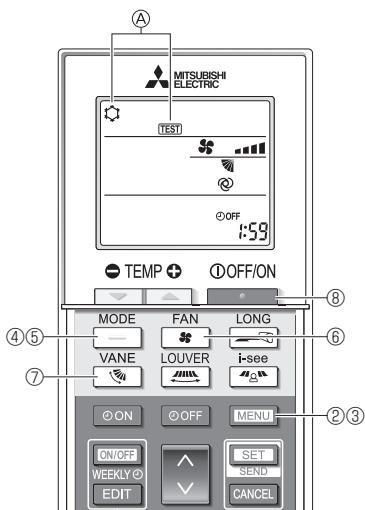

Fig. 8-5
- ① Turn on the power to the unit at least 12 hours before the test run.
- ② Press the **[MENU]** button for 5 seconds. (Fig. 8-5)
- ③ Press the **[MENU]** button.
④ [TEST] and the current operation mode are displayed. (Fig. 8-5)
- ⑤ Press the **[—]** button to activate cool mode, then check whether cool air is blown out from the unit.
- ⑥ Press the **[—]** button to activate heat mode, then check whether warm air is blown out from the unit.
- ⑦ Press the **[fan]** button and check whether the fan speed changes.
- ⑧ Press the **[vane]** button and check whether the auto vane operates properly.
- ⑨ Press the **[stop]** button to stop the test run.